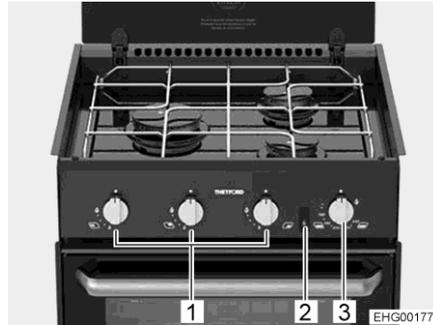
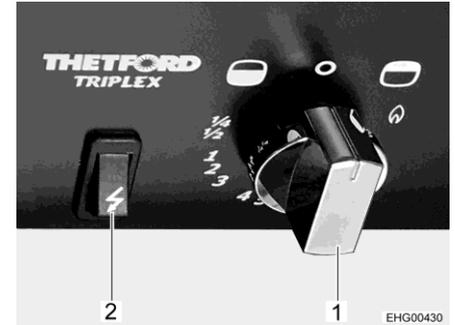

Fig. 256 Cooker with gas burners
Fig. 257 Operating controls (gas oven with grill)
- Press control knob (Fig. 256,1) of the desired burner, turn it to the ignition position (large flame), and hold it until the flame is burning (for a maximum of 15 seconds).
- Press the control knob (Fig. 256,3 and Fig. 257,1) and set it to the maximum setting anticlockwise (towards the oven symbol "").
- Press the control knob (Fig. 256,3 and Fig. 257,1) and hold it down for 5 to 10 seconds. Gas will stream into the burner.
- Keep the ignition switch (Fig. 256,2 and Fig. 257,2) pressed until the flame burns.
- Press the control knob (Fig. 256,3 and Fig. 257,1) and turn it clockwise (towards the grill symbol "") in the direction of the flame symbol.
- Turn control knob (Fig. 257,1) to "0". The flame fades.